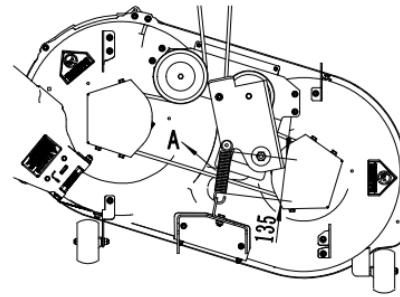

Fig. 19
- Increase belt tension by turning the nut (C) clockwise and decrease belt tension by turning the nut counterclockwise(Refer to Fig. 19).
- The idler spring (A) body length should measure approximately 135 mm for proper belt tension.
- Tighten the lock nut (B) when the proper belt tension is achieved.